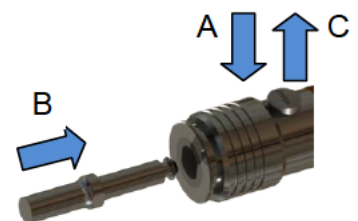

Figure 3: Sequence WA coupling with push button
By pressing the push button (A) the lock is opened and the instrument can be inserted (B). Then release the push button (C) and check that the instrument is firmly seated (see Fig. 3).